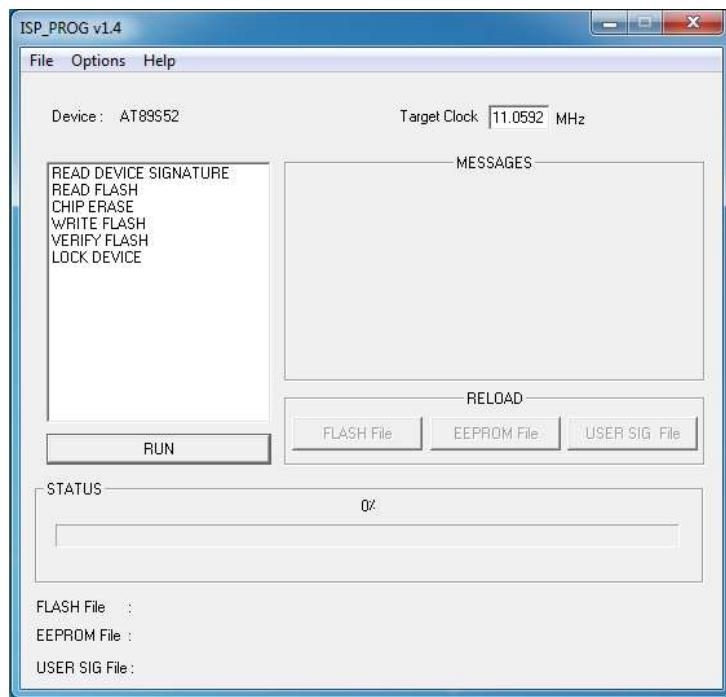

Figure 3.18: ISP_PROGv1.4 window
- e. A new window will open as shown in Figure 3.18. Set Target Clock to 11.0592.